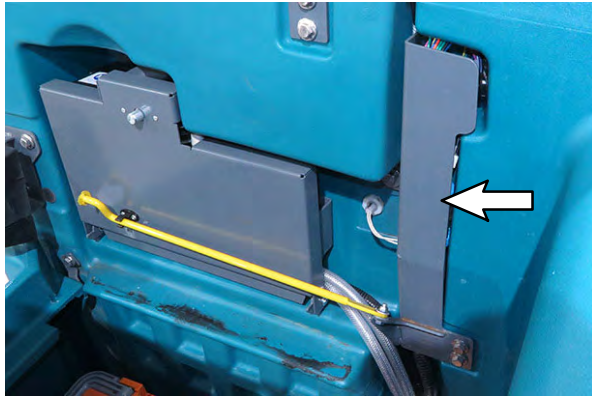

FIG. 16
28. Remove the wire cover from the machine. Set the wire cover/prop rod and hardware aside. (Fig. 16)
38. Reinstall the wire cover/prop rod onto the machine. (Fig. 16)